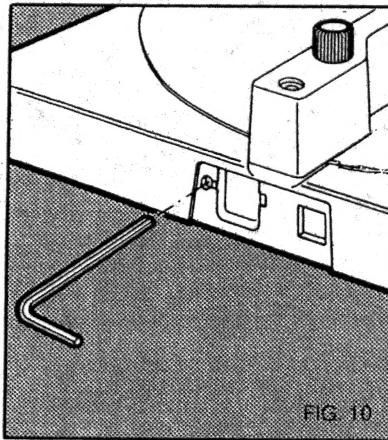
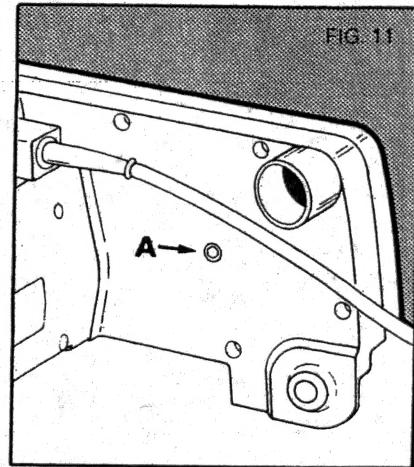

FIG. 10
FIG. 11
3. Using the hex wrench located in the saw table, shown in Figure 10, loosen hex screw "A" in Figure 11 four full turns counter-clockwise.